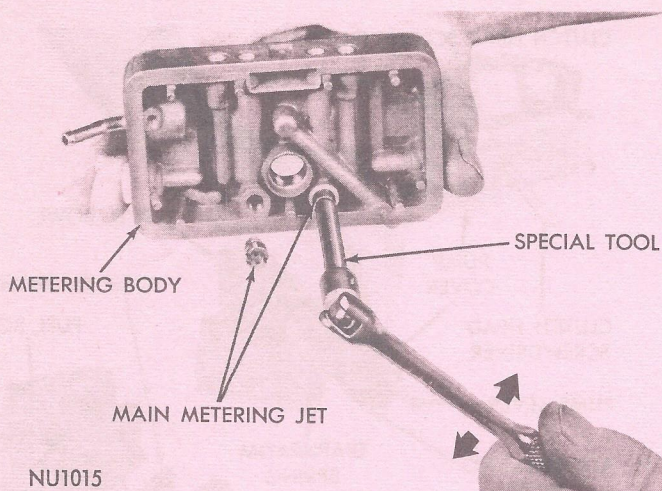

Fig. 16—Removing or Installing Main Metering Jets
(2) Using Tool C-3748, remove main metering jets (Fig. 16).